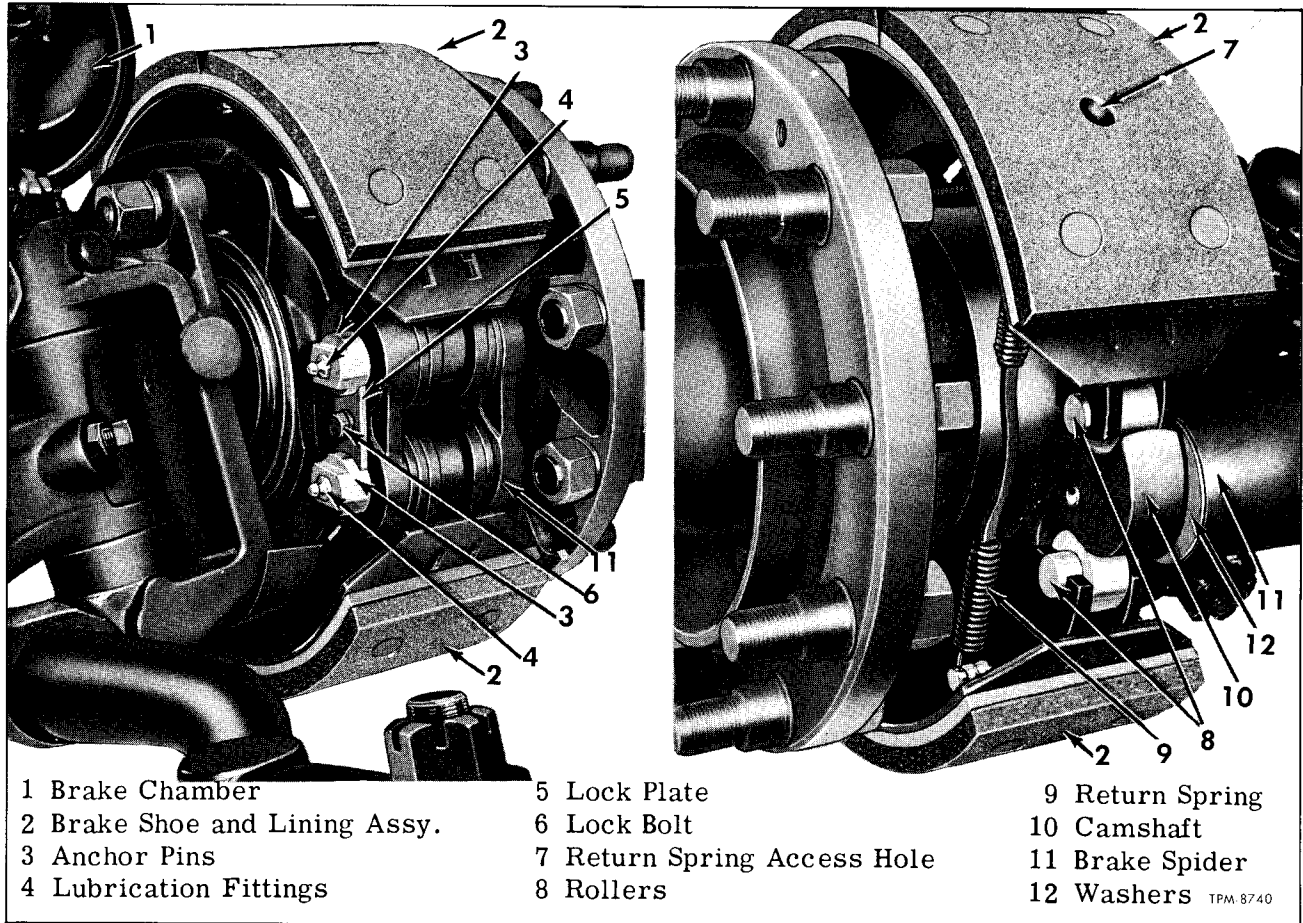

Figure 31—Front Brake Shoes Installed
Brakes at each front wheel have two shoes which pivot on anchor pins at one end and are expanded at the other end during brake application by constant lift S-type cams (fig. 31). Brake shoe return springs hold shoe rollers firmly against cam. Two-piece block type lining is bolted to each
Cam end of each shoe is equipped with a roller which forms the contact between shoe and cam (fig. 31). Anchor pin ends of shoes are equipped with replaceable bushings.
Anchor pin end of each shoe fits between brackets at brake spider, and is retained by straight type anchor pin (fig. 31). Both anchor pins are held in place by a lock plate which engages notches in end of each pin and is attached to brake spider by a lock bolt. Lubrication fittings are provided in each anchor pin so they can be lubricated at regular lubrication intervals. Refer to figure 31.
3. Install brake shoes at brake spider in same position from which they were removed. Coat anchor pins with lubricant and insert through brake spider and shoes. Turn anchor pins so notches in inner end face each other. Install anchor pin lock plate and secure with lock bolt and lock washer (fig. 31).